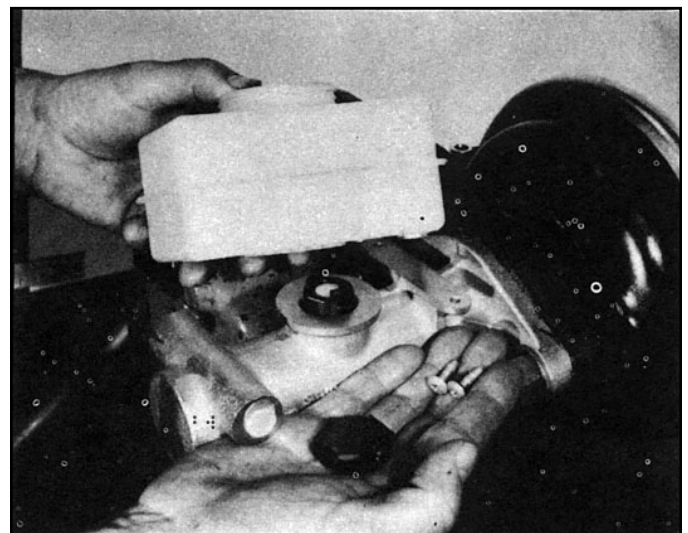

FIGURE 6
3. Remove the reservoir cap and retain. **DO NOT DISASSEMBLE CAP.** Using a 1-1/4" socket remove the retaining nut on the inside of the reservoir. Reservoir is now free of the master cylinder. Remove the seal on the bottom of the reservoir and discard. (Refer to Figure 6.)